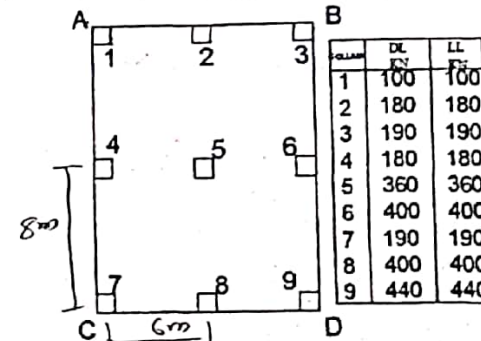

Fig. 6(a)
- 6(a) The plan of a mat foundation with 9 columns is shown in Fig. 6(a). Assuming the mat is rigid, determine the soil pressure distribution at point A, B, C and D if the size of the columns are 0.6m x 0.6m and the 6m c/c along x-direction and 8m c/c along y-direction. Take the load combination as (1.2DL + 0.8LL). 8